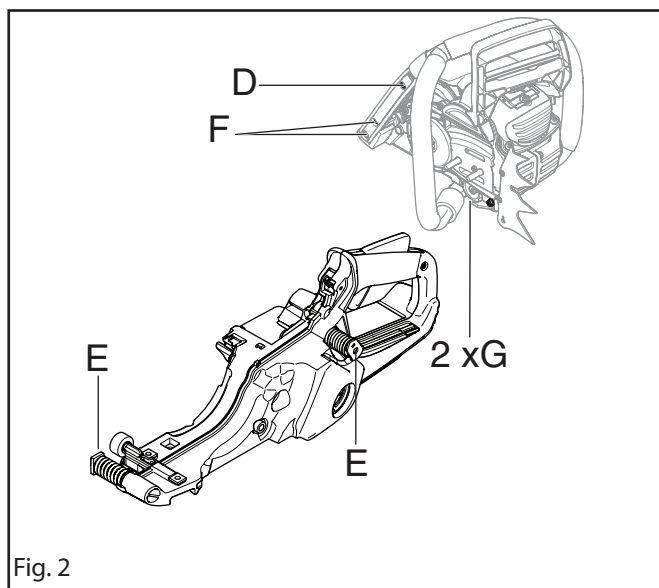

Fig. 2
7. Remove the bolts (D, F and G) and dismantle the front handle. See figure 2.
8. Remove the vibration damping units (E). See figure 2.